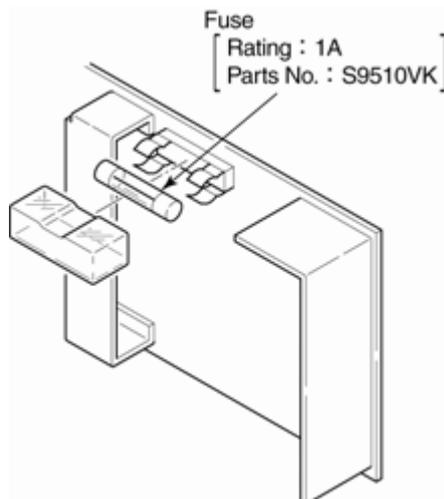

Figure 6-3 Replacement of Fuse
- (a) Remove the fuse holder cap, then pull the fuse out in the direction shown in Figure 6-3.